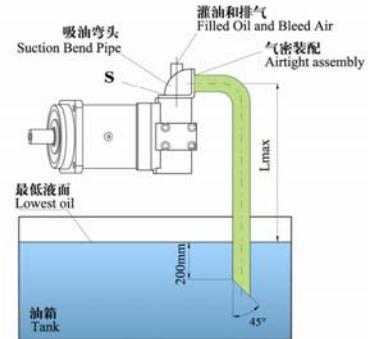

图2 Fig.2
安装示意图见图 2
3)Pump's suction port should be located up. And also the suction pipe is possible shorter. The pipe end should be low 200mm than oil. The flow speed in suction pipe should keep speed between 0.8 ~ 1.0m/s. Mounting as Fig.2.